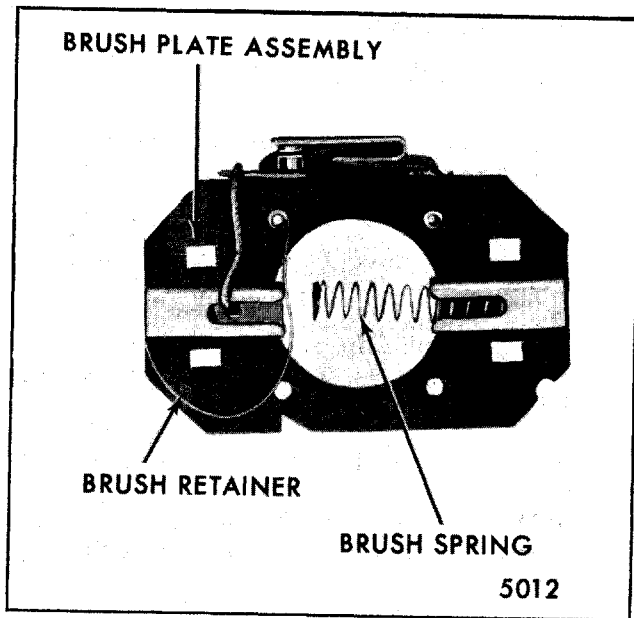

Fig. 2-44-Brush Plate Assembly - Removed
5. Position the partially assembled brush plate (Fig. 2-44) over the armature shaft far enough to allow reassembly of the remaining brush in its brush holder; then position the brush plate assembly on the mounting tabs in the position shown in Figure 2-30.